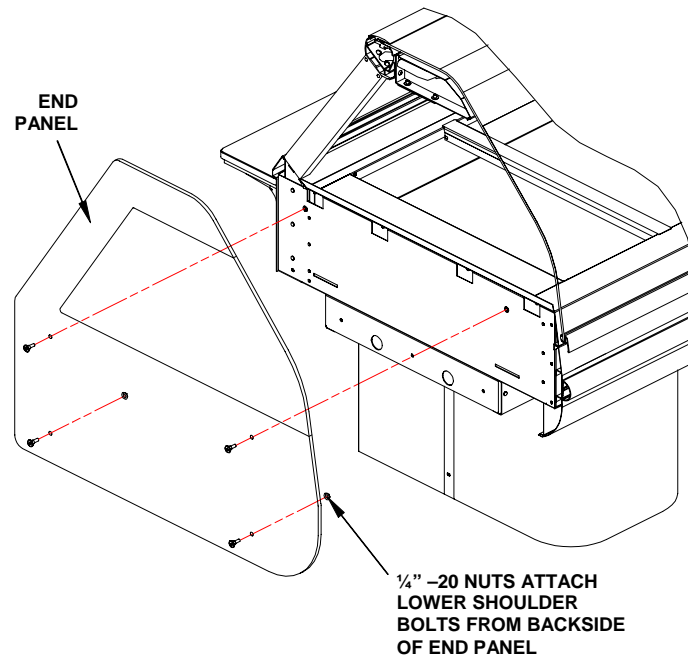

Figure 4. Pedestal Model - End Panel Mounting
1. Attach the End Panels to the ends of the case(s) as shown in Figure 4 using the shoulder screws provided.
2. Attach the (2) lower shoulder screws to the End Panel with the 1/4"-20 nuts provided. For Glass End Panels only, slide the plastic bushings provided over the shoulder screws before inserting the screw into the glass panel. Be careful that the screws do not bind in the holes in the glass panel.
Attach the End Panels to the ends of the case as shown in Figure 4 using the shoulder screws provided. The (2) lower shoulder screws shown in Figure 4 are not required on counter mounted cases.